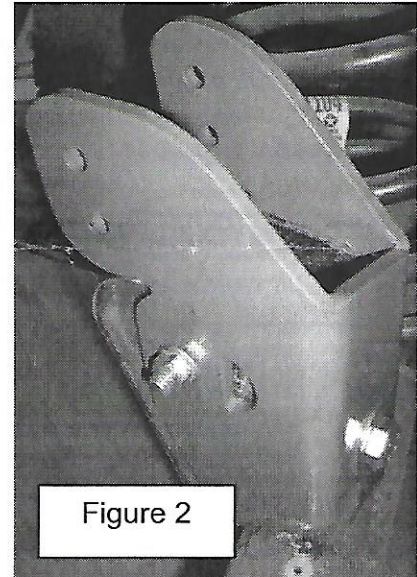

Figure 2
**Step 5: Bolt Extension Bracket to stock tower.** Now the the bracket is in place, use the two 3/8” bolts and locknuts and the four smallest washers to bolt the bracket to the original RRUCA holes in the stock tower. The third connection will require drilling a 1/2” hole in the back side of the stock tower to line up with the hole in the extension bracket – you can drill directly through the bracket to assure proper alignment of the new hole. Use the two largest supplied washers with the 1/2” bolt & nut to finish securing the extension. Your extension installation should now look like **figure 2**.
**Step 4:** Pre-assemble trackbar tower and clevis. This kit can be configured for +3.0", +4.5", or +6.0" Nth° suspension systems. If using this kit with a different suspension lift, choose the configuration that is closest to your suspension lift height. The difference is in the position and orientation of the clevis bracket (silver) to the main tower. There are six holes in the 'back side' of the tower bracket – consult **figure 2** for the correct orientation according to your lift height. Note that for 3.0" lifts, the clevis is oriented with the holes for the trackbar down, while the other two configurations have the holes biased upward.
Once you have chosen the correct setup, insert the appropriate bolts through the back wall of the clevis (the face with two holes) from the 'inside' to the outside (some clevises will have one countersunk hole – be sure to use the provided 'flat head' bolt in that hole). Now guide the two protruding bolts into the appropriate holes in the tower bracket as shown in **figure 3**, making sure to have the clevis oriented correctly as shown in figure 2. With the clevis and bolts now in place, put the backing plate over the two bolts and add a locking nut to both bolts. Tighten them just snug for now.